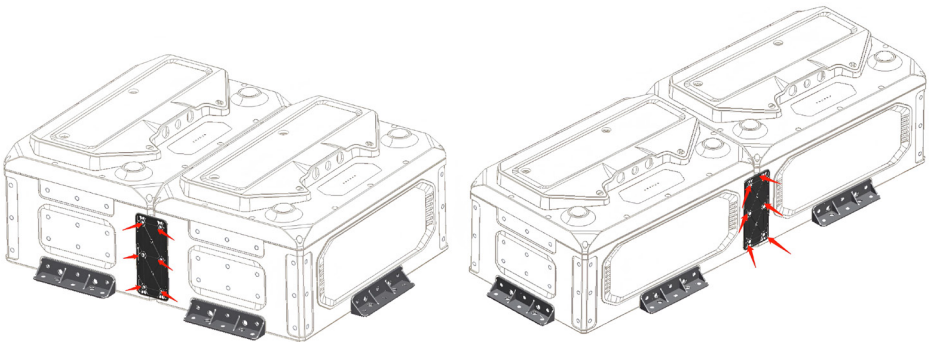

Figure 4: HUSKY 2 Parallel Mounting Installation
3. When connecting several batteries in parallel, you can use the flat metal plates on the sides of the case as connectors, and secure the batteries together using an electric wrench, as shown in Figure 4.